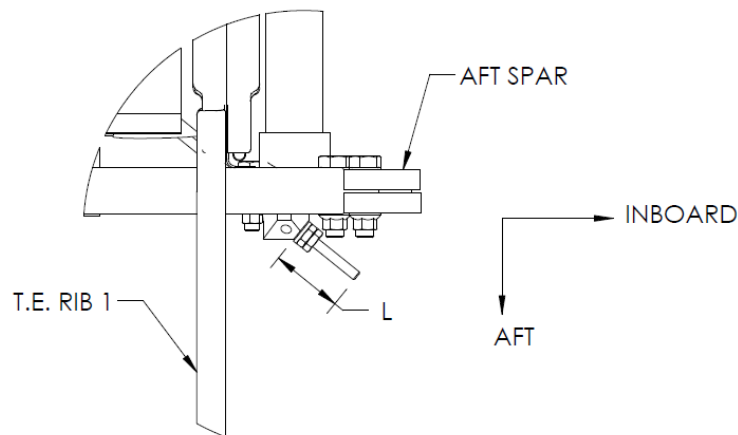

Figure 2 – Drag Wire Measurement
7. Measure the length of drag wires that protrude past the fitting on the outboard side. Figure 2 shows the aft drag wire with measurement 'L'. The forward drag wire is similar. Record measurements for later use: LH FWD wire _____, LH AFT wire _____, RH FWD wire _____, and RH AFT wire _____.